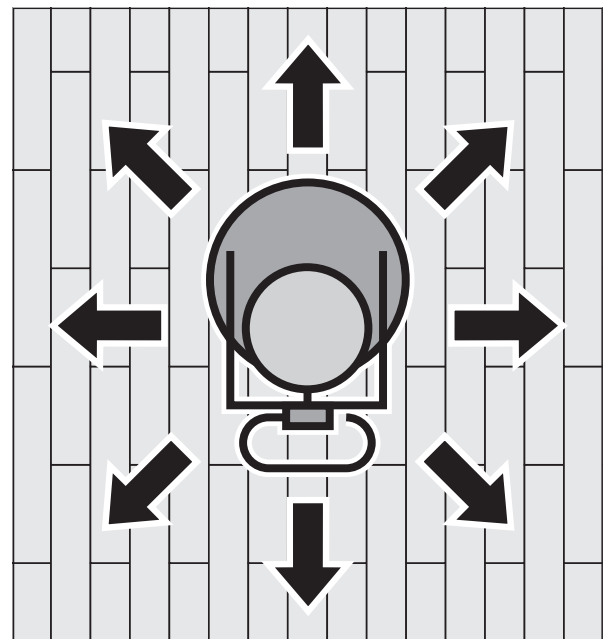

Fig. 30 Sanding directions using the **TRIO**.
- No particular sanding direction has to be followed (Fig. 30).